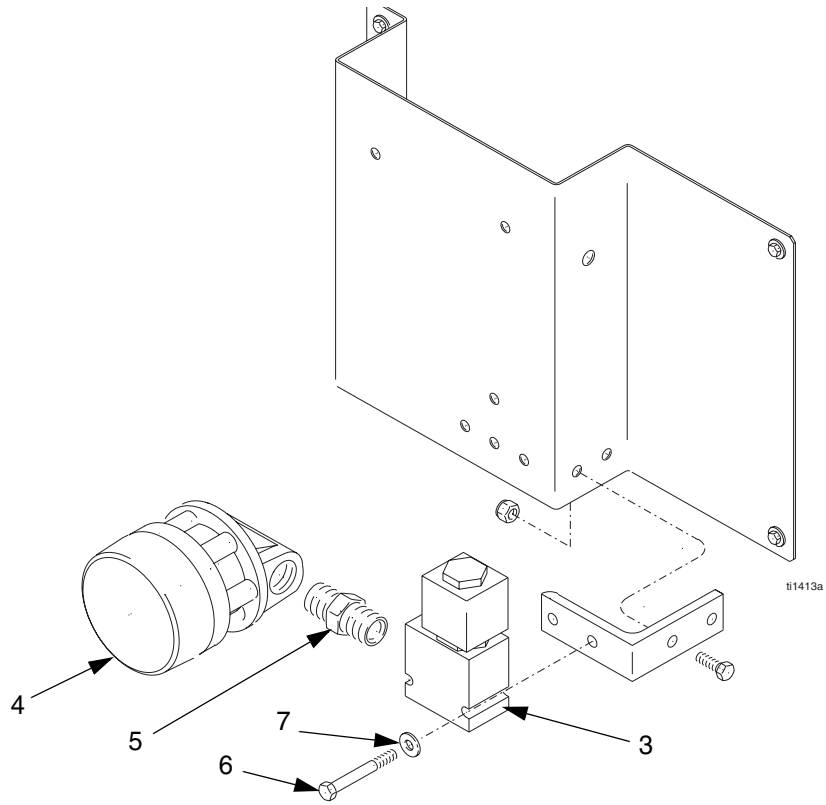

FIG. 21
5. Remove two bolts (6) and washers (7) from the solenoid (3), and remove solenoid and meter assembly. See FIG. 21.
6. Place flats of the solenoid (3) in a vice and unscrew the meter (4).
8. Secure the assembly to the fluid panel with solenoid washers (7) and bolts (6).